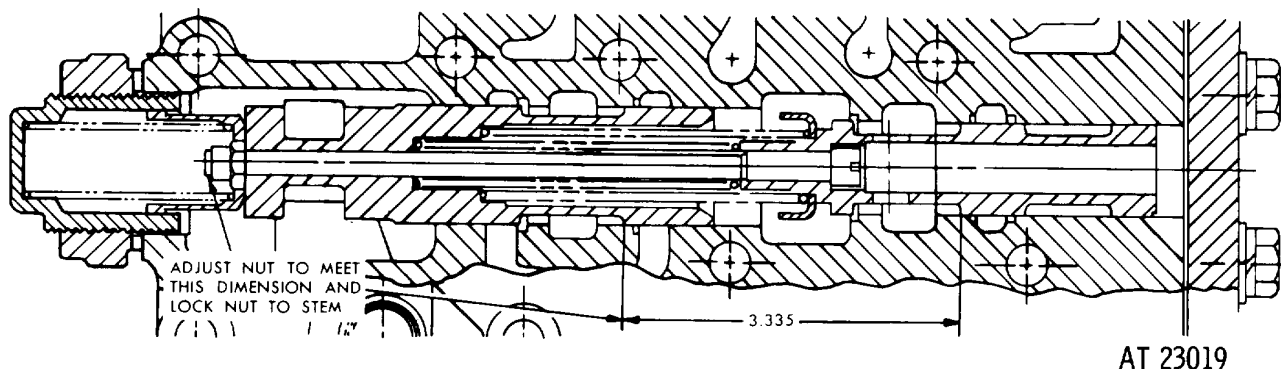

Figure 7-59. Steer valve adjustment
- o. Install relay plug valve (74, FO-12) into steer valve body (109).
- p. Install steer relay valve (75) into steer valve body (109).
- q. Install steer relay valve spring (76) into steer valve body (109).
- r. Install steer relay valve retaining plug (78) and retainer plug gasket (77).
- t. Install stop (83), steer regulator valve outer (85) and inner (84) springs onto steer regulator valve assembly (80).
- u. Install steer valve (86, FO-12), large end first, onto steer regulator valve stem (81) against springs (84 and 85).
- v. Install nut (87), flat side first, onto steer regulator valve stem (81) but do not tighten at this time.
- w. Assemble the left steer valve in the same manner as described in s through v, above (items 100 through 108).
- x. Install right and left steer valve assemblies (79 and 100) head of stems (81 and 108) first, into steer valve body (109).
- y. Tighten nuts (87 and 101) at the steer valves until the dimension of 3.335 inches is obtained between the land of the steer regulator valve and the land of the steer valve, as shown in figure 7-59. The steer regulator valve assemblies may be prevented from rotating while adjusting the nuts by inserting a 5/16 -inch diameter rod or punch through the drilled holes in the valve. After adjusting the nuts, crimp each nut in two places.